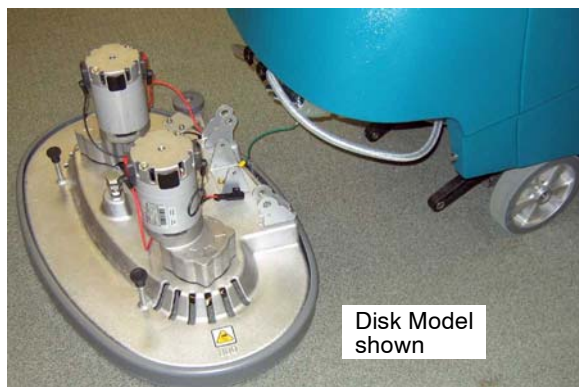

Fig. 1
3. Remove the scrub head assembly from the machine (Figure 1).